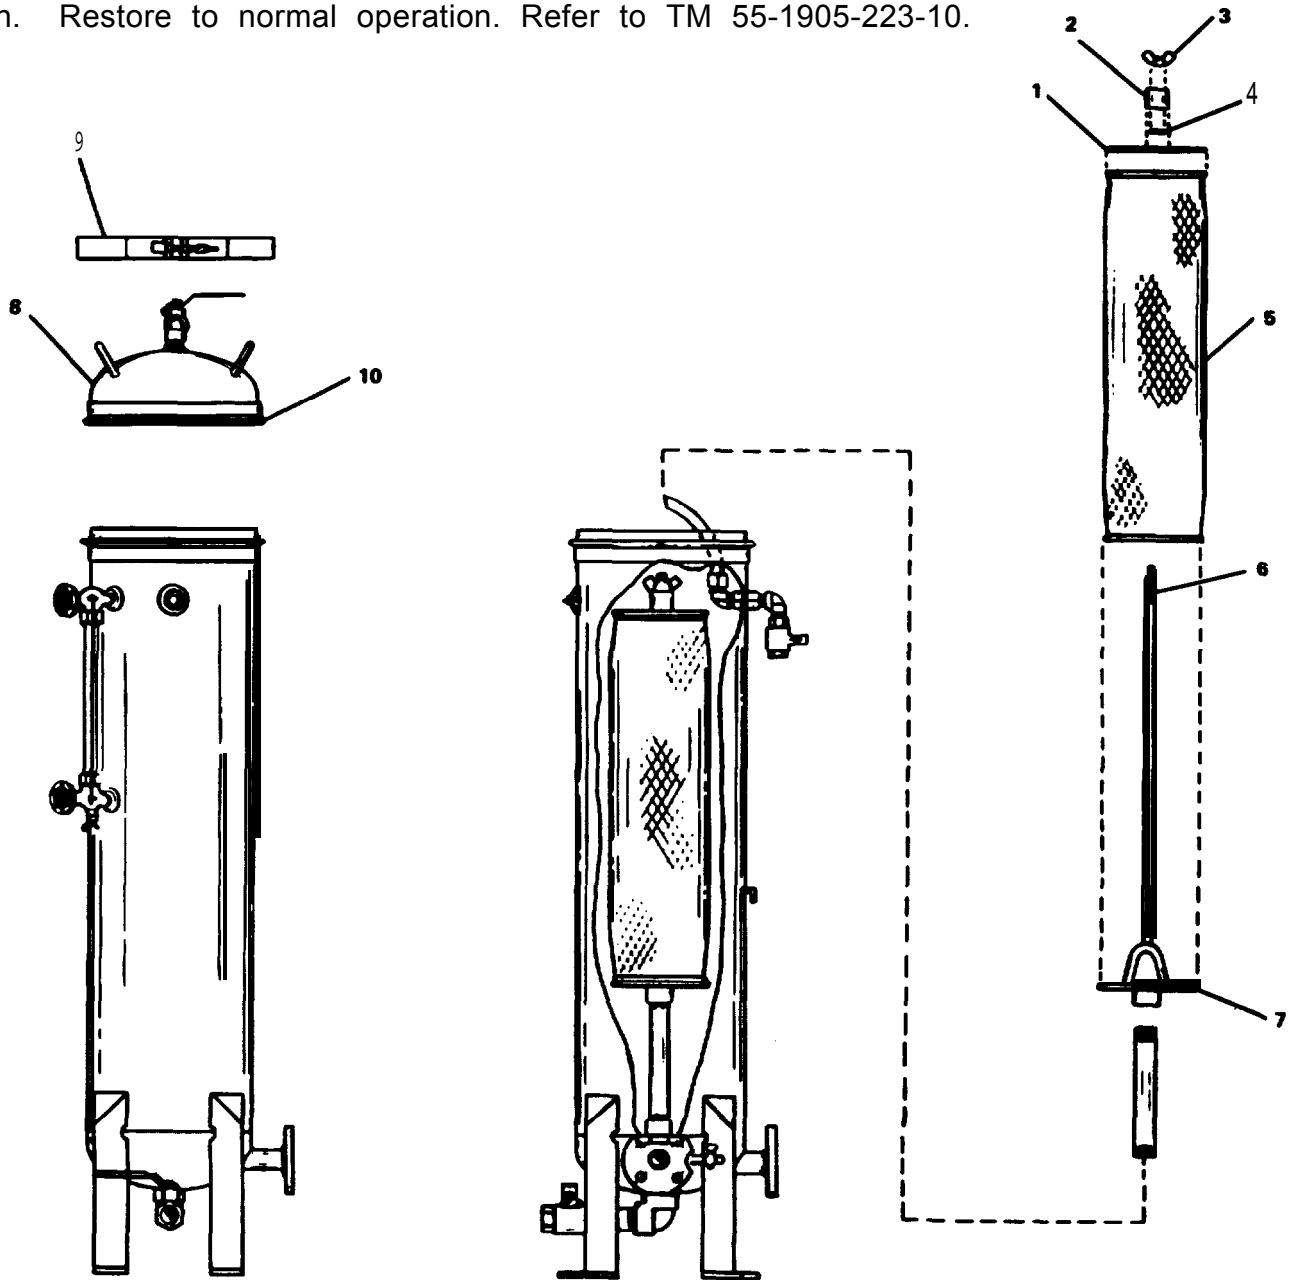

FIGURE 2-20. Vessel Subassembly (3rd Stage).
- (1) Loosen and remove clamp (9, FIGURE 2-20) securing cover (8) to third stage vessel.
- (2) Remove cover (8).
- (3) Loosen and remove wing nut (3) from threaded filter support (6).
- (4) Remove packing retainer (2), preformed packing (4) and hold down plate (1).
- (5) Remove coalescer element (5).